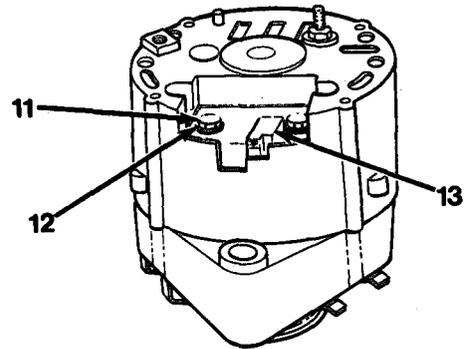

Figure 10-4
15. Install brush assembly (13), flat washer (12) and two self-tapping screws (11, Figure 10-4) to rear side of alternator.